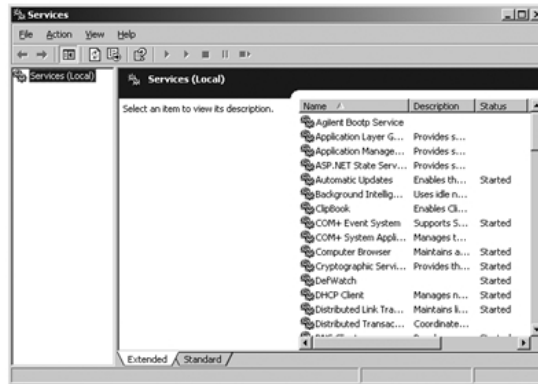

Figure 71 Windows Services screen
- 1 In the Windows control panel, select **Administrative Tools > Services**. The **Services** screen appears, see Figure 71 on page 217.